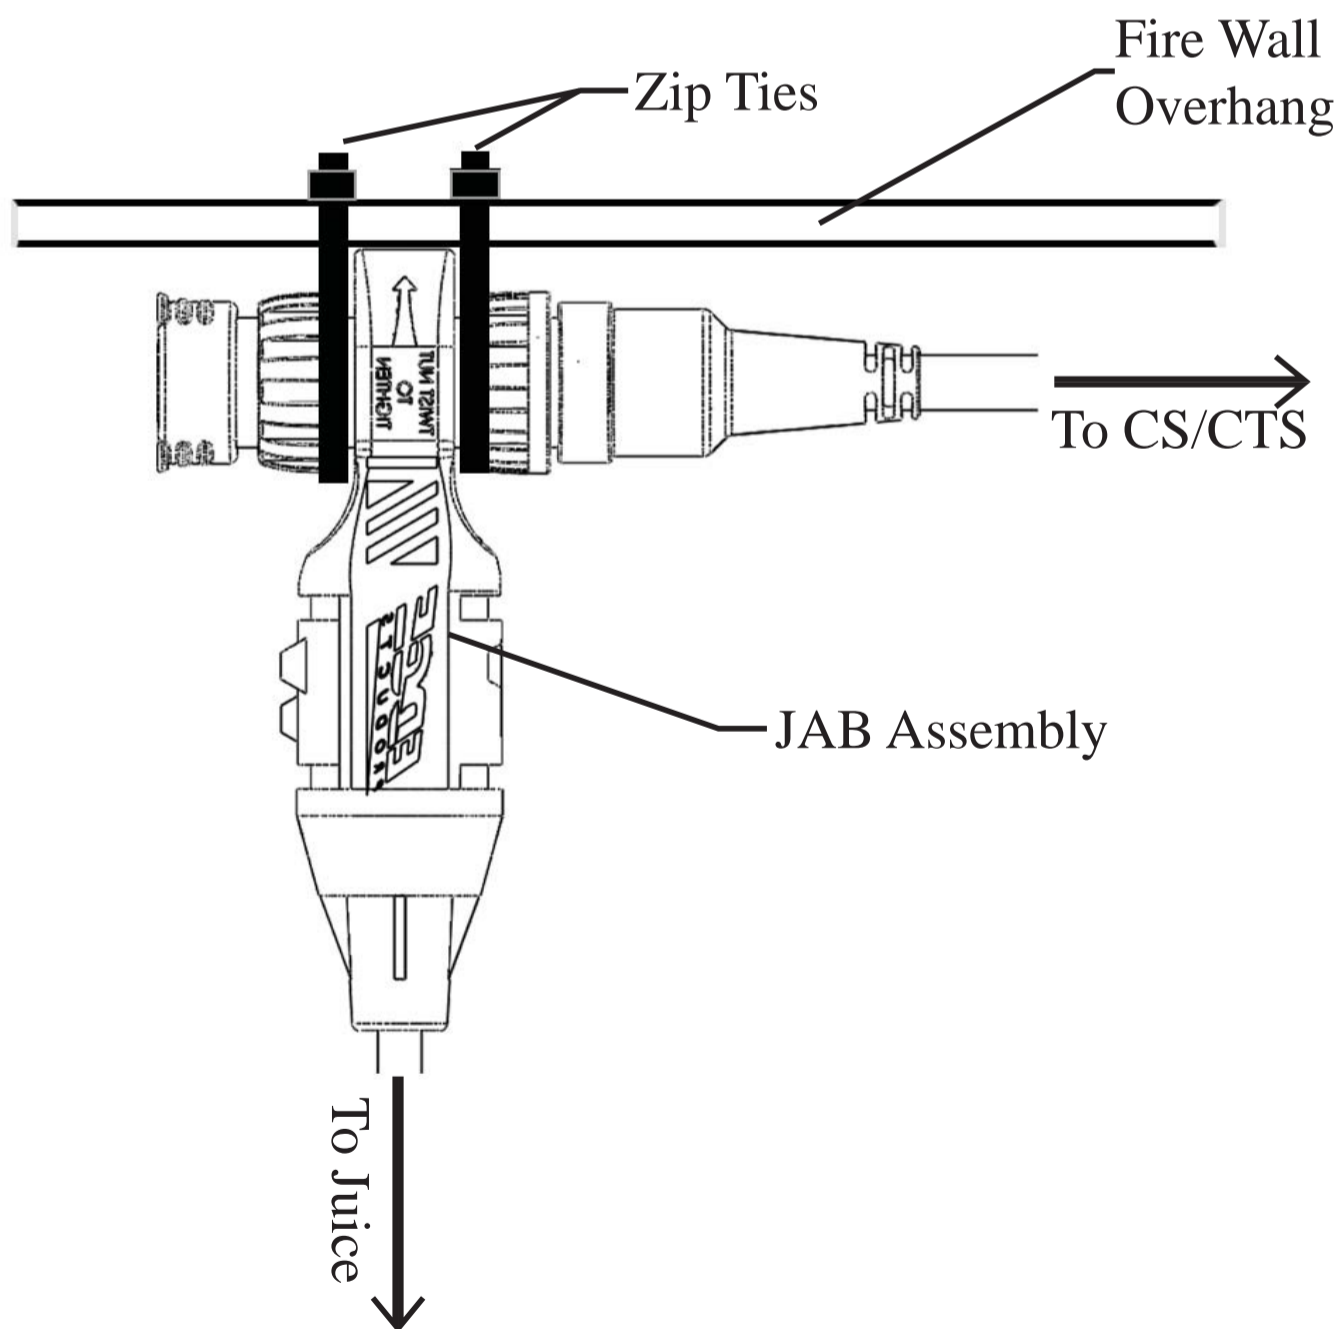

Figure 5 - Securing JAB (Looking from the front of the truck to back)
9. Using the supplied zip ties, fasten the EAS connectors underneath the overhang which runs across the top of the fire wall. (Figure 5)